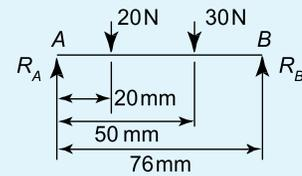

Figure 5.8
- Determine the values of the forces acting at  $A$  and  $B$  for the force system shown in Figure 5.8.